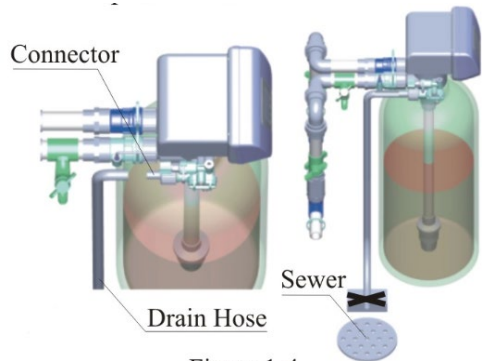

Figure 1-4
⑤ Install drain pipeline
a. As the Figure 1-4 shows, slide the drain hose connector into drain outlet.
b. Locate the drain hose well as the Figure 1-4 show.
● Be sure not to connect drain with sewer, and leave a certain space between them, avoid waste water **being** absorbed to the water treatment equipment, such as showed in the Figure1-4.